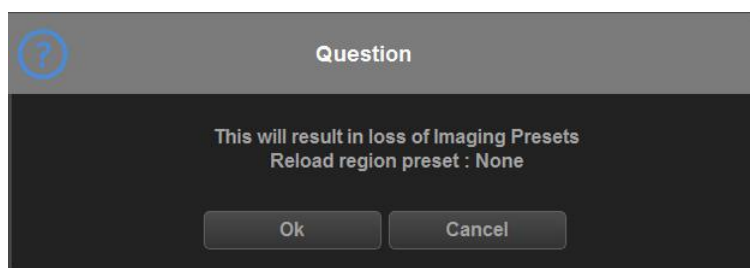

Figure 6-2. Quesiton
- The window below will display after the region being selected. Select "Ok", refer to Figure 6-2 on page 6-4.